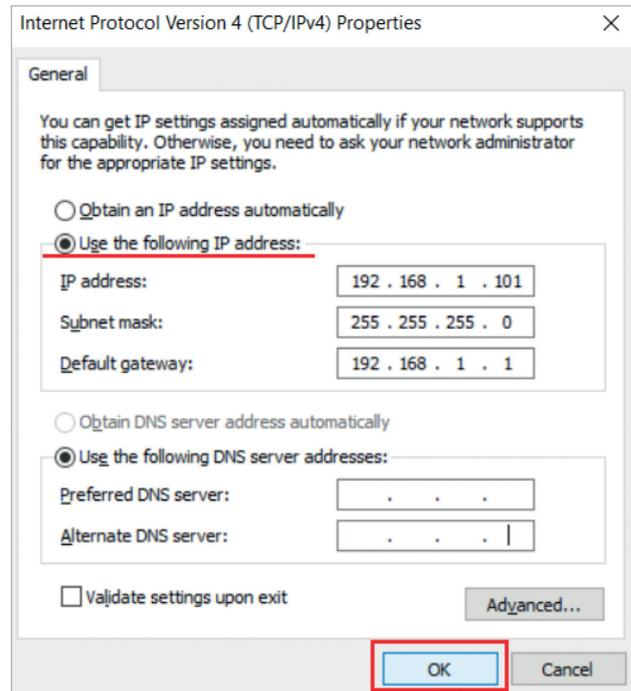

Figure 10. Configuring the **IP address settings**.
6. Select **Use the following IP address** and enter the following information (Figure 10):